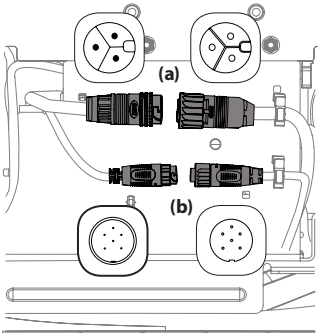
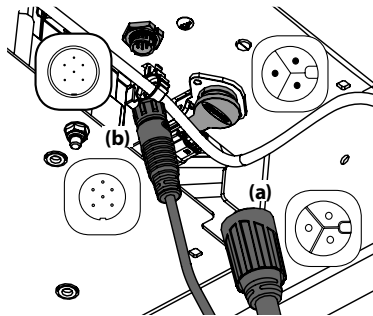

Figure 19
Figure 20
NOTE: Your mower may have one of two different deck motor connector setups. If your mower has horizontally positioned connectors, see Figure 19. If your mower has vertically positioned connectors, see Figure 20.
6. Reconnect the deck motors on the underside of the riding mower. Always connect the larger connector first and then the smaller connector. See Figure 19.